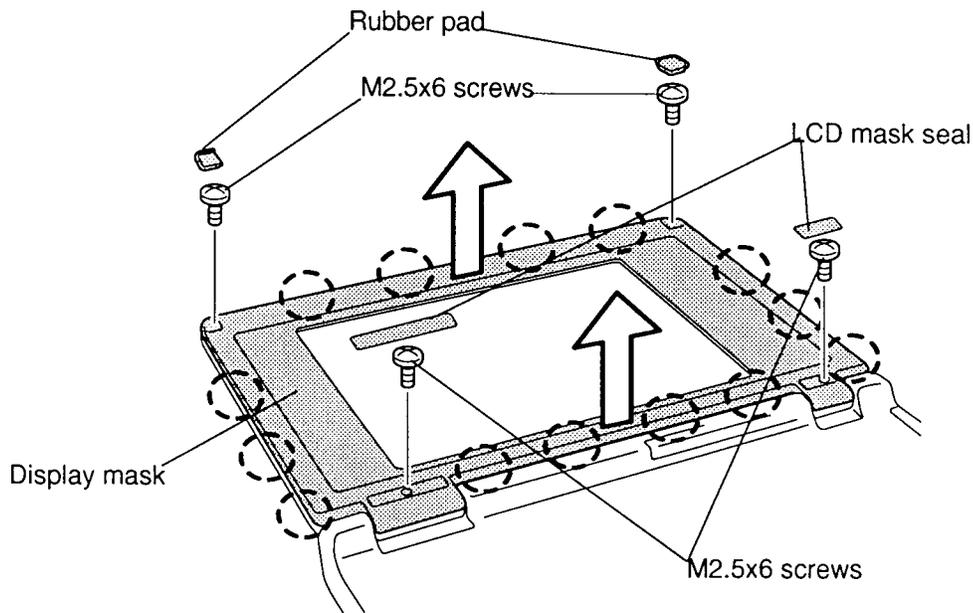

Figure 4-19 Removing the display mask
4. Remove two LCD mask seals from the display hinges and two rubber pads from the top of corners of the display to expose screws securing the display mask (figure 4-19).
5. Remove two M2.5x6 screws at the bottom corners of the display mask, and two M2.5x6 screws at the top two corners (figure 4-19).
6. Carefully insert your fingers between the mask and the LCD panel and pry open the latches. Start with the **four latches** across the top of the display mask (figure 4-19).
7. Continue unlatching the mask along the **sides (three latches on each side)**, at the bottom, four latches, and display supports (figure 4-19).
2. Set the display mask in place and press firmly to secure the latches. Start at the bottom four latches and work your way around the sides (three latches on each side) and, finally, secure the four latches at the top (figure 4-19).
3. Secure four brass M2.5x6 screws, one at each corner of the display cover (figure 4-19).
4. Replace the two rubber pads and two LCD mask seals covering screws at the top two corners and hinges (figure 4-19).